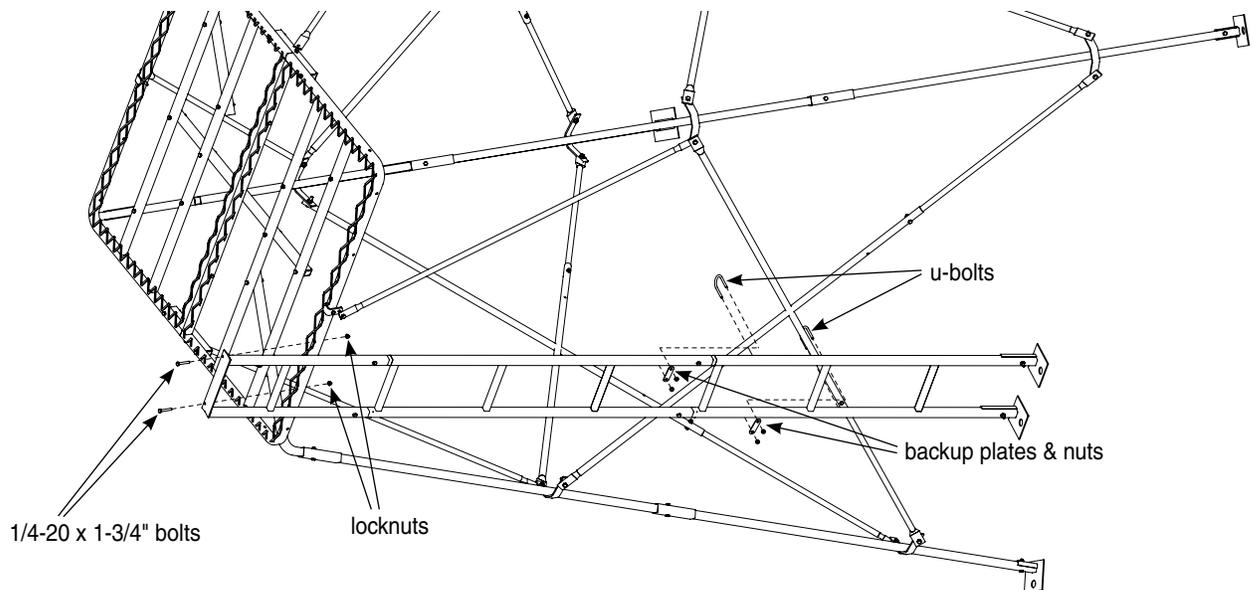

FIGURE 14
23. Attach assembled ladder to the platform using (2) provided 1/4-20 x 1-3/4" bolts and locknuts. **SEE FIGURE 14.** Plate of top ladder section should be mounted on top side of platform.
24. Attach the ladder assembly to the cross braces using the (2) provided U-bolts/backup plates/nyloc nuts. This will hold the ladder securely to the cross braces. **SEE FIGURE 14.**